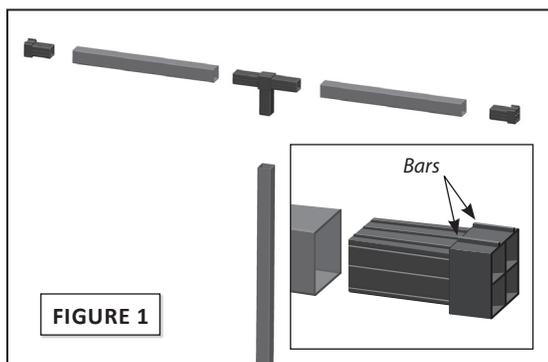

FIGURE 1
- 1 For easiest assembly, first install the leg extensions to the leg uprights using the three-way Quick Connectors as shown in Fig. 1. Ensure that the bars on the end inserts are facing the bottom of the stand, and that the Quick Connectors are completely seated into the legs and extensions.